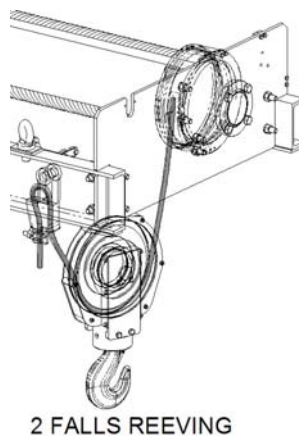

Figure 28 – Reeving Diagrams for ZX10 SS 2 Fall Foot Mount and Double Girder Crab
- Pass the free end of the rope through the sheave system as shown in Figure 28 to Figure 30. Ensure there are no obstructions which may cause twisting of the rope and monitor the rope carefully as it is being pulled through the sheave system. Unwind rope from the barrel as necessary but ensure tension is maintained on the rope as it leaves the barrel.